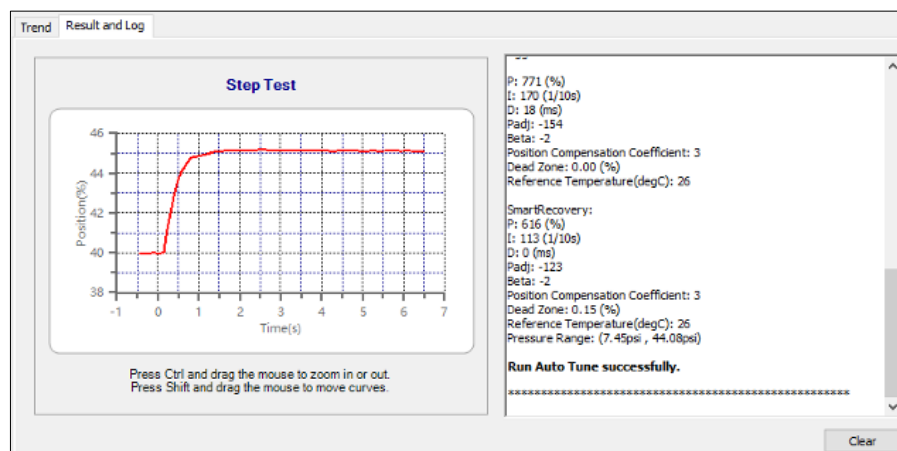

Figure 57 - Auto Tune Success
6. Once complete the *Results & Log* appears (Figure 57).
5. Once complete the *Results & Log* appears (Figure 57).